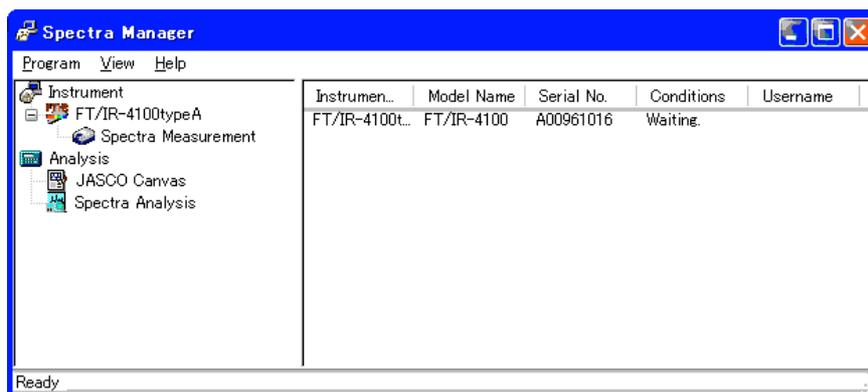
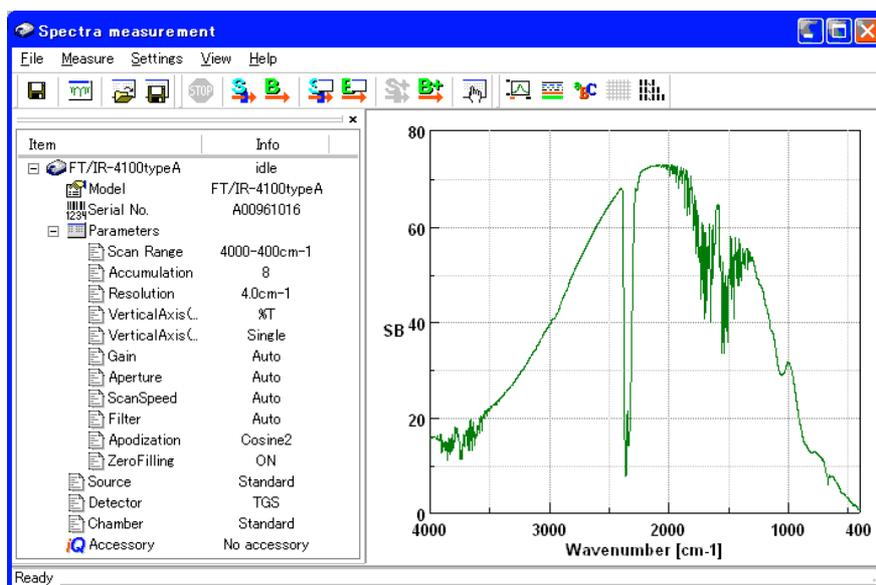

Fig.2.10 Spectra Manager main window
Fig.2.12 Spectra Measurement Program
- (1) Double-click [Spectra Manager] on the desktop.
- (2) Upon starting Spectra Manager, the Logon dialog shown below is displayed. (Fig. 2.10)
- (3) All of the spectrometers that have been setup are shown under the [Instrument] item in the tree-view in the left panel of the Spectra Manager main window. (Fig. 2.10) To begin spectra measurement, run the [Spectra Measurement] program corresponding to the spectrometer you want to use by double-clicking the [Spectra Measurement] icon. The spectra measurement program starts and the following screen is displayed. (Fig. 2.12)